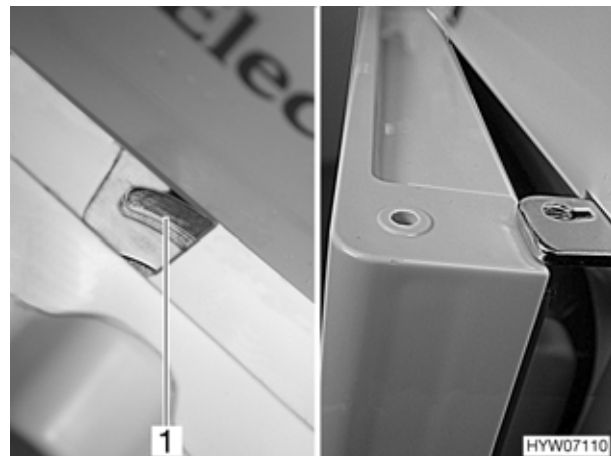

Fig. 138 Refrigerator door in the ventilation position (variant 2)
- Fix the refrigerator door using the door latch (Fig. 138,1). The refrigerator door will then stay slightly open (Fig. 138).